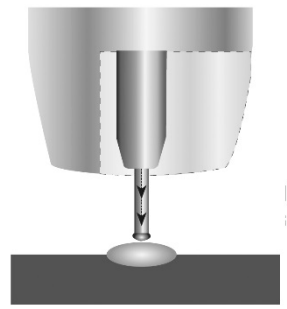

Fig. 32
6. The wire feed speed overcomes the heat of the arc and the wire again approaches the work to short-circuit and repeat the cycle (Fig. 32).